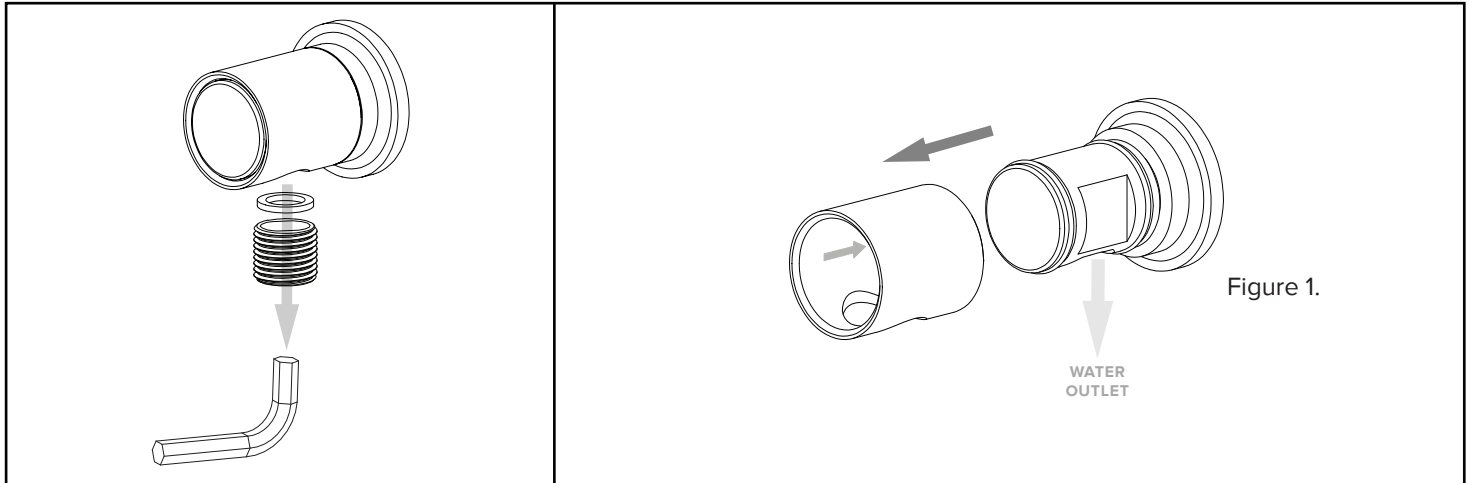

Figure 1.
7. Remove the elbow sleeve from the elbow body. Screw elbow onto the water outlet (wingback) on the wall. Sealant is required on thread to achieve water tight seal. Ensure the water outlet on the elbow is facing downwards. (Figure 1).